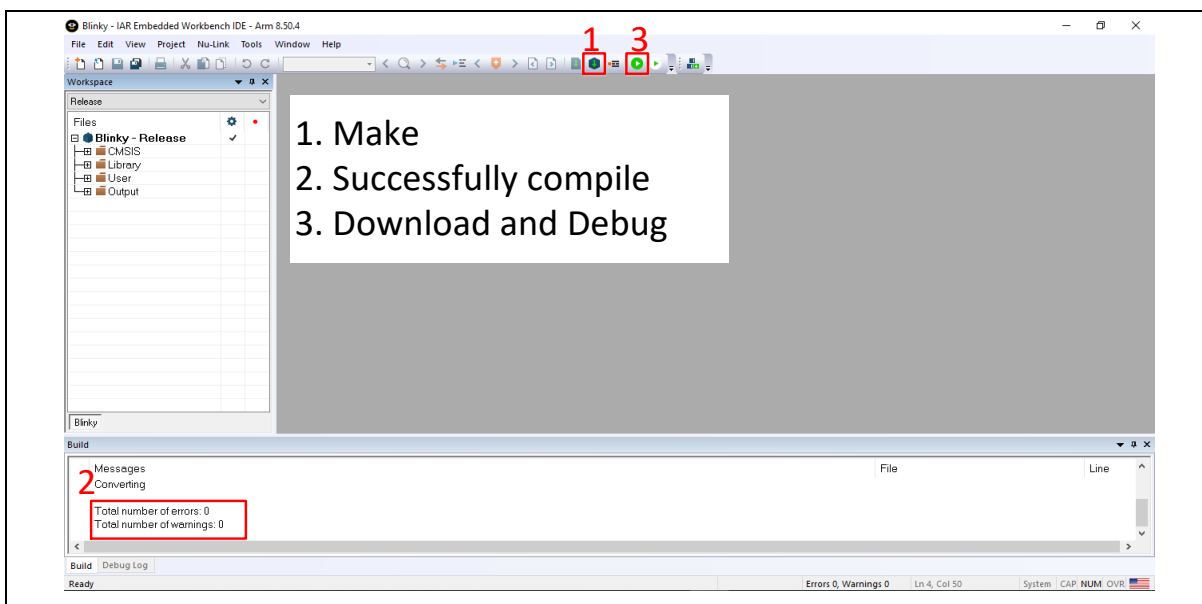

Figure 4-14 Compile and Download the Project
3. Make target file as presented in Figure 4-14. After successfully compile the project, download code to the flash memory and enter debug mode.